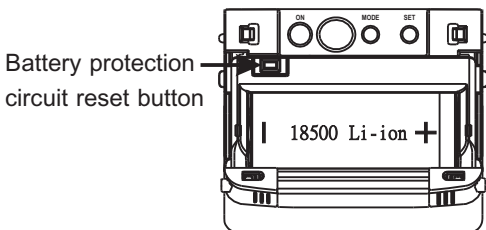

Fig. 27
- (A) Insert the transmitter into the single or dual-docking battery charger for at least 10 seconds. Power on the transmitter.
- (B) Insert battery with incorrect polarity first. Remove and re-insert again with correct polarity.
- (C) Open battery compartment, press the battery protection circuit button as shown in Fig. 27. Power on the transmitter.